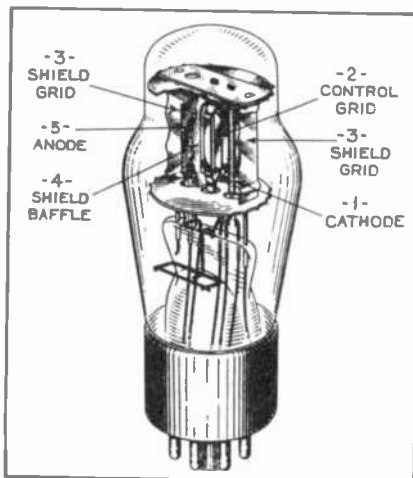

Fig. 5. In the RCA Type 2050 thyratron a shield grid which completely encloses the other elements is employed.
impedance circuits, thereby gaining the advantage of greater effective sensitivity, thyratrons have been developed in which a shield grid is included. Such a tube is shown in Fig. 5—the RCA-2050 (and 2051). Here the shield grid (3) completely incloses the other elements and also isolates the anode (5) from the cathode (1) and grid (2) by virtue of a partition (4) in which there is a narrow aperture. The grid takes the form of a looped ribbon, the inner dimensions of which correspond with the aperture in the shield grid partition. The electron path from cathode to anode is through these aligned apertures.